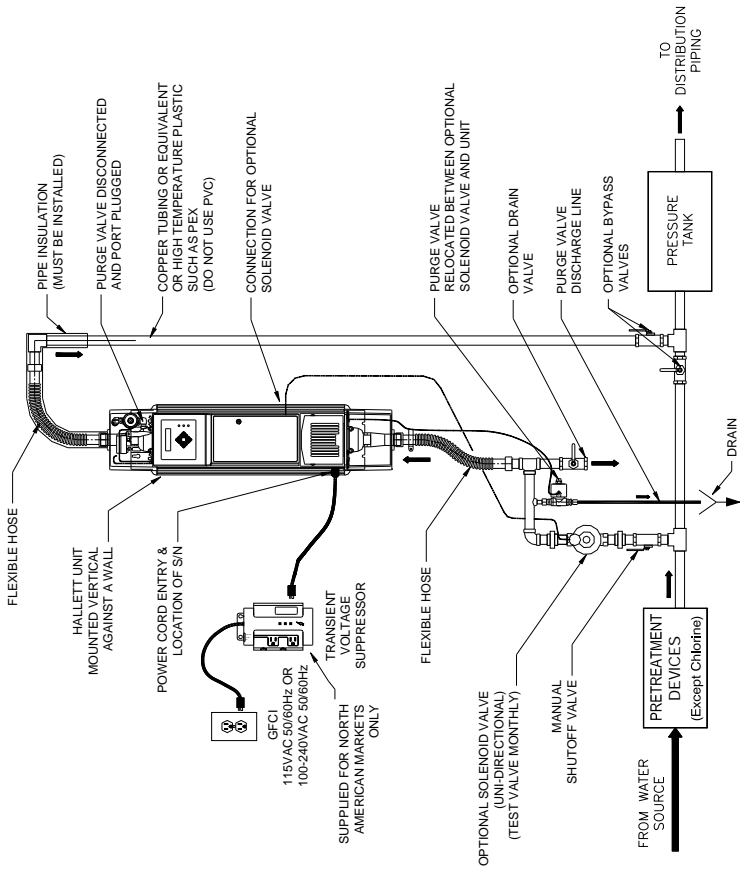

Figure 1C
**Step 6:** Connect the purge valve to a drain using the tubing provided. The tubing can be run down the right hand side of the unit within the recess provided – the plastic cover may be removed to insert tube. The tubing should be secured to the wall or floor to prevent it from moving during purging cycle. If the pressure tank (water reservoir) is located downstream of the unit, the purge valve must be relocated. A Purge Valve Relocation Kit H500001 (sold separately) is required to have the water flow through the quartz. See Figure 1C